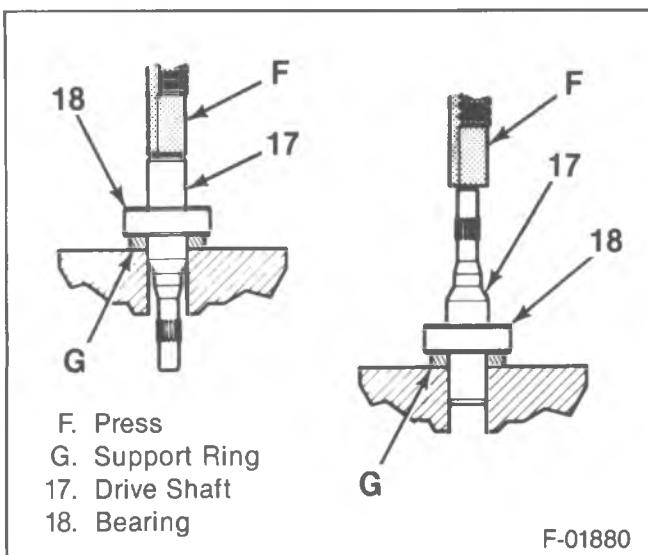

Figure 34—Remove and Install Driveshaft Bearing
16. Bearing (18) onto the driveshaft (17) (figure 34).